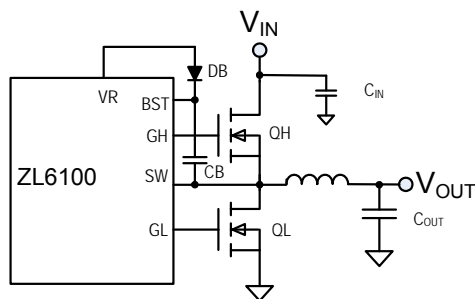

FIGURE 4. SYNCHRONOUS BUCK CONVERTER
Figure 4 illustrates the basic synchronous buck converter topology showing the primary power train components. This converter is also called a step-down converter, as the output voltage must always be lower than the input voltage. In its most simple configuration, the ZL6100 requires two external N-channel power MOSFETs, one for the top control MOSFET (QH) and one for the bottom synchronous MOSFET (QL). The amount of time that QH is on as a fraction of the total switching period is known as the duty cycle  $D$ , which is described by Equation 1:
Typically, buck converters specify a maximum duty cycle that effectively limits the maximum output voltage that can be realized for a given input voltage. This duty cycle limit ensures that the lowside MOSFET is allowed to turn on for a minimum amount of time during each switching cycle, which enables the bootstrap capacitor (CB in Figure 4) to be charged up and provide adequate gate drive voltage for the high-side
The gate drive voltage for the high-side MOSFET driver is generated by a floating bootstrap capacitor, CB (see Figure 4). When the lower MOSFET (QL) is turned on, the SW node is pulled to ground and the capacitor is charged from the internal VR bias regulator through diode DB. When QL turns off and the upper MOSFET (QH) turns on, the SW node is pulled up to VDD and the voltage on the bootstrap capacitor is boosted approximately 5V above VDD to provide the necessary voltage to power the high-side driver. A Schottky diode should be used for DB to help maximize the high-side drive supply voltage.